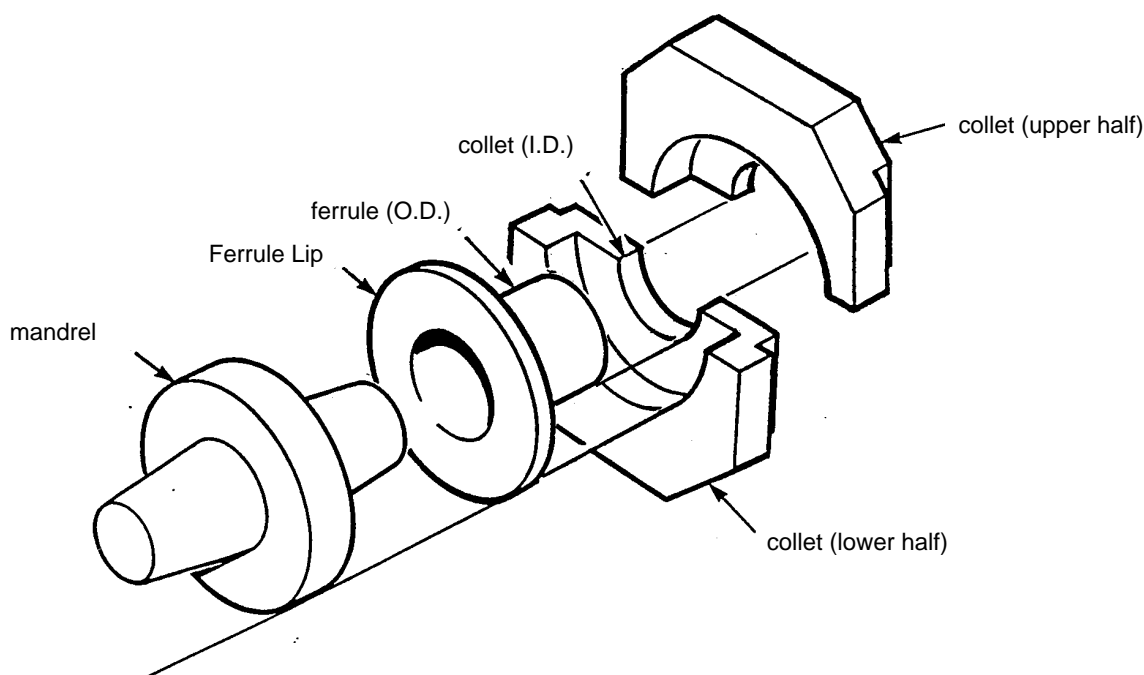

Figure 2 - Mandrel, Ferrule and Collet
- Step 2. Place the correct size mandrel in the mandrel shaft and drop the lower half of the collet in place (see Table 1). The flange of the mandrel must be of the same diameter as the lip of the ferrule (see Figure 2). The smaller inside diameter of the collet must equal the outside diameter of the ferrule and the larger inside diameter of the collet must be equal to the diameter of the lip of the ferrule (see Figure 2).